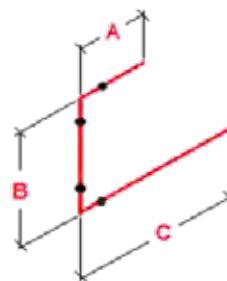

Fig. 1.2.10 Isometric view drawing sample
- The Fig. 1.2.10 shows orthographic view of a butt welded pipe with three sizes (A, B, C).